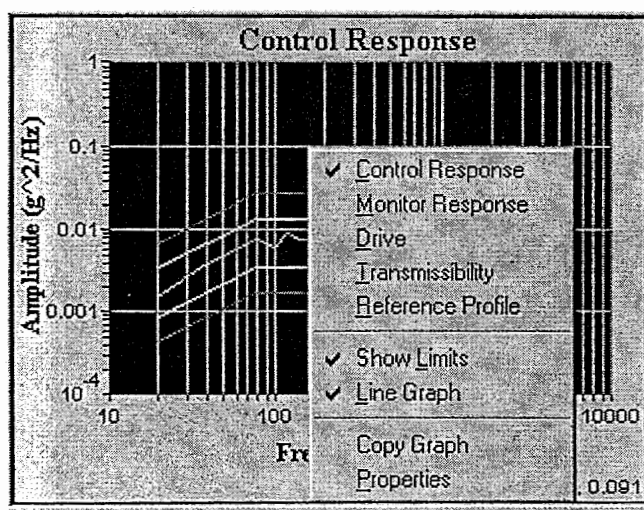

Figure 2-5. View Commands for a Single Graph.
- a. Right-click on the graph to open its View commands display. See Figure 2-5.